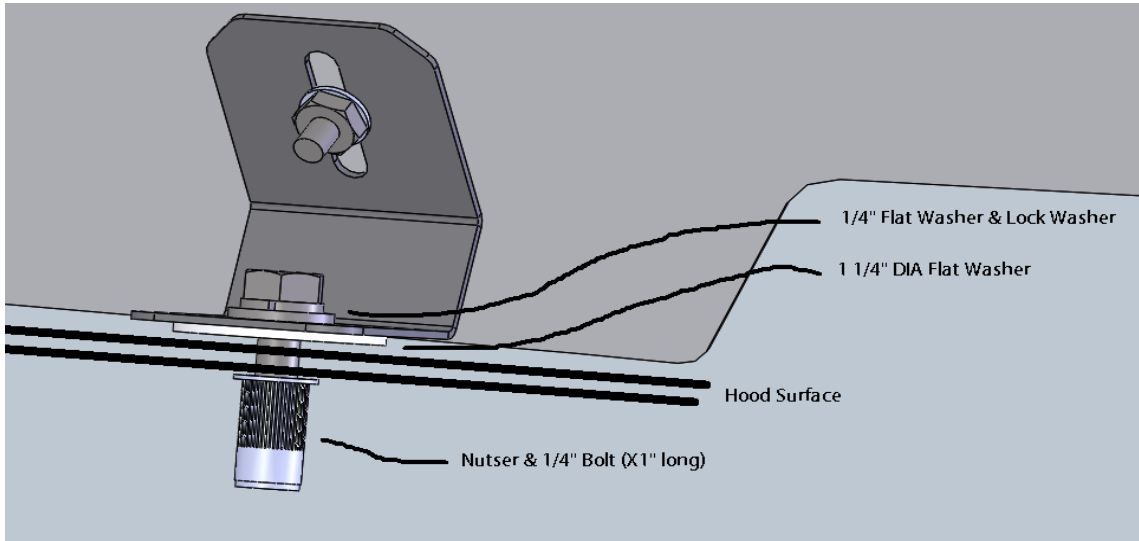

Figure 3: Hardware Use for Installing Inner Brackets
8. Place the bug deflector back onto hood surface and temporarily attach the inner brackets with 1/4" hardware, as shown in Figure 3. (1/4-20x1" hex head bolt with lock washer and flat washer, with a nylon washer between the bracket and hood)